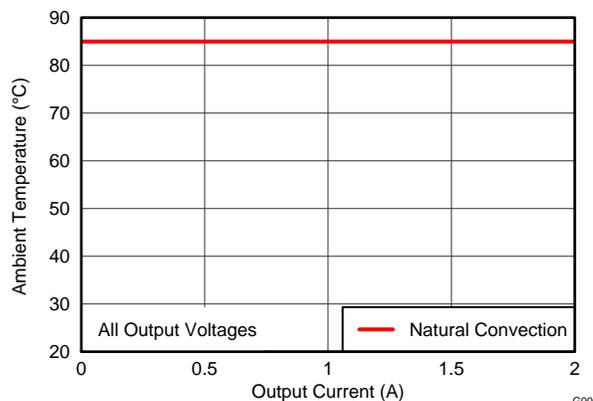

Figure 4. Safe Operating Area
- (2) The temperature derating curves represent the conditions at which internal components are at or below the manufacturer's maximum operating temperatures. Derating limits apply to devices soldered directly to a 100 mm × 100 mm double-sided PCB with 1 oz. copper. Applies to Figure 4.
**TYPICAL CHARACTERISTICS (VIN = 3.3 V) (1) (2)**